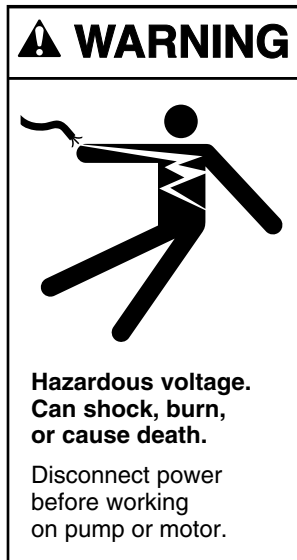

Figure 6 – Use a pry bar or board as shown to remove tight lid. Do not use a pry bar to tighten lid.
2. Remove trap cover and use low pressure air to blow accumulated water from the piping system. Use a pry bar or board to remove trap covers that have been overtightened or have taken a set and cannot be removed by hand. Lugs have been provided on the trap lid to use a lever or pry bar for loosening (see Figure 6).